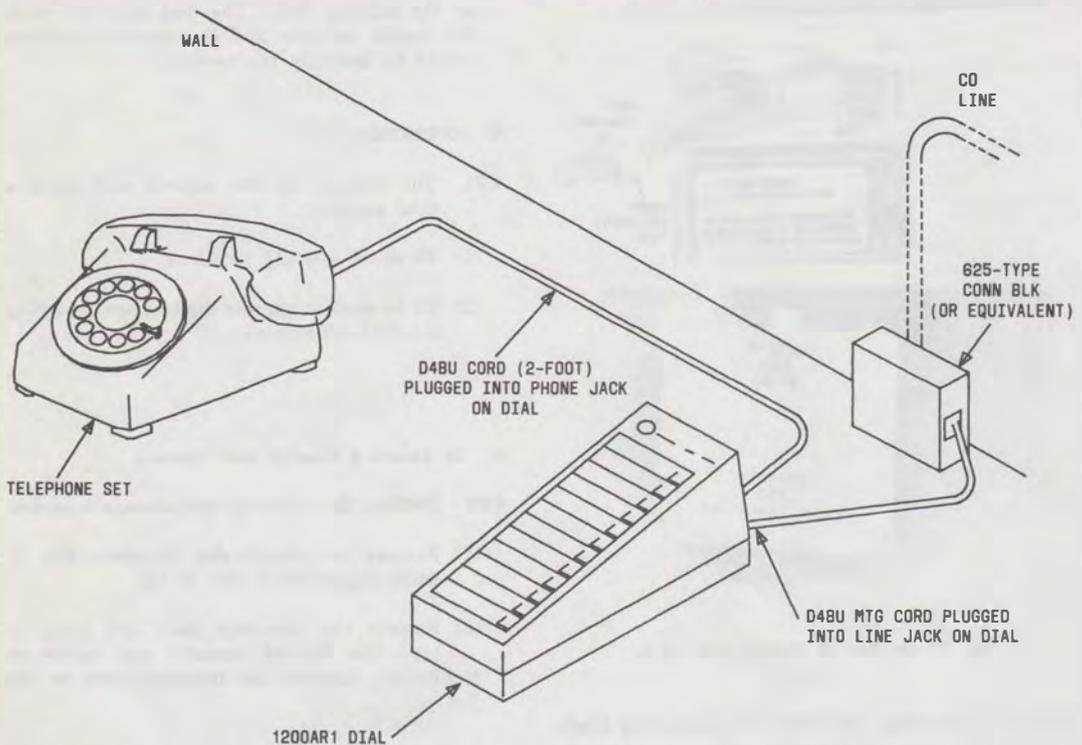

Fig. 3—Recommended Installation for Single Line Modular Desk Type Telephone Set
3.04 Plug one end of the standard D4BU telephone set mounting cord into LINE jack located under battery cover of the dial and other end into connecting block from CO. Plug one end of the two-foot D4BU mounting cord (furnished with the dial) into the PHONE jack on adjunct dial and plug other end of the cord into the telephone set mounting cord jack (Fig. 3).